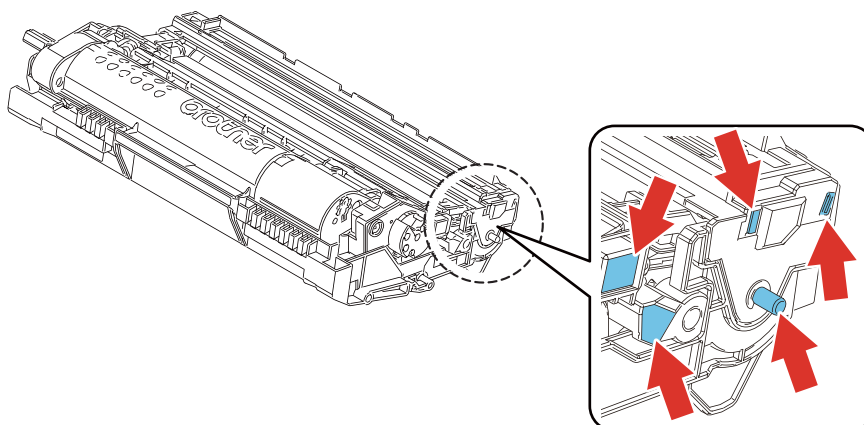

Fig. 2-9
- Clean the electrode of the drum unit. (Refer to Fig. 2-9 \(P2-42\).)